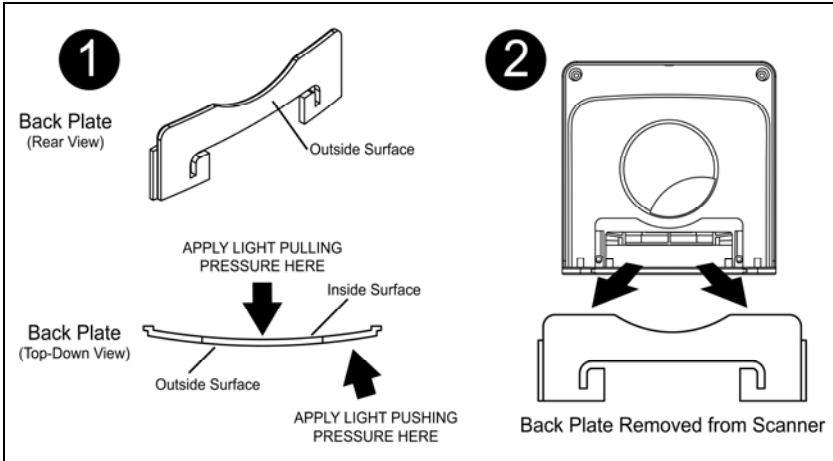

Figure 22. Cable Cover Removal
3. Remove the scanner's back plate from the rear side of the unit. Apply pressure to the points shown in *Figure 22* until the back plate unlatches from the scanner.